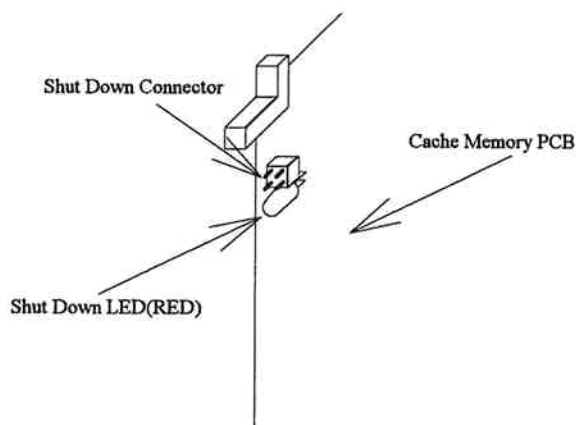

Fig. 3.4.1.4.2-5 Location of the Shut Down LED
- a. Check the Shut Down LED on the Cache Memory PCB in the Cache Box. Refer to Fig.3.4.1.4.2-5 and Table 3.4.1.4.2-6. See "Connection of Shut Down Jumper (INST03-2600)" if the Shut Down LED is not on.